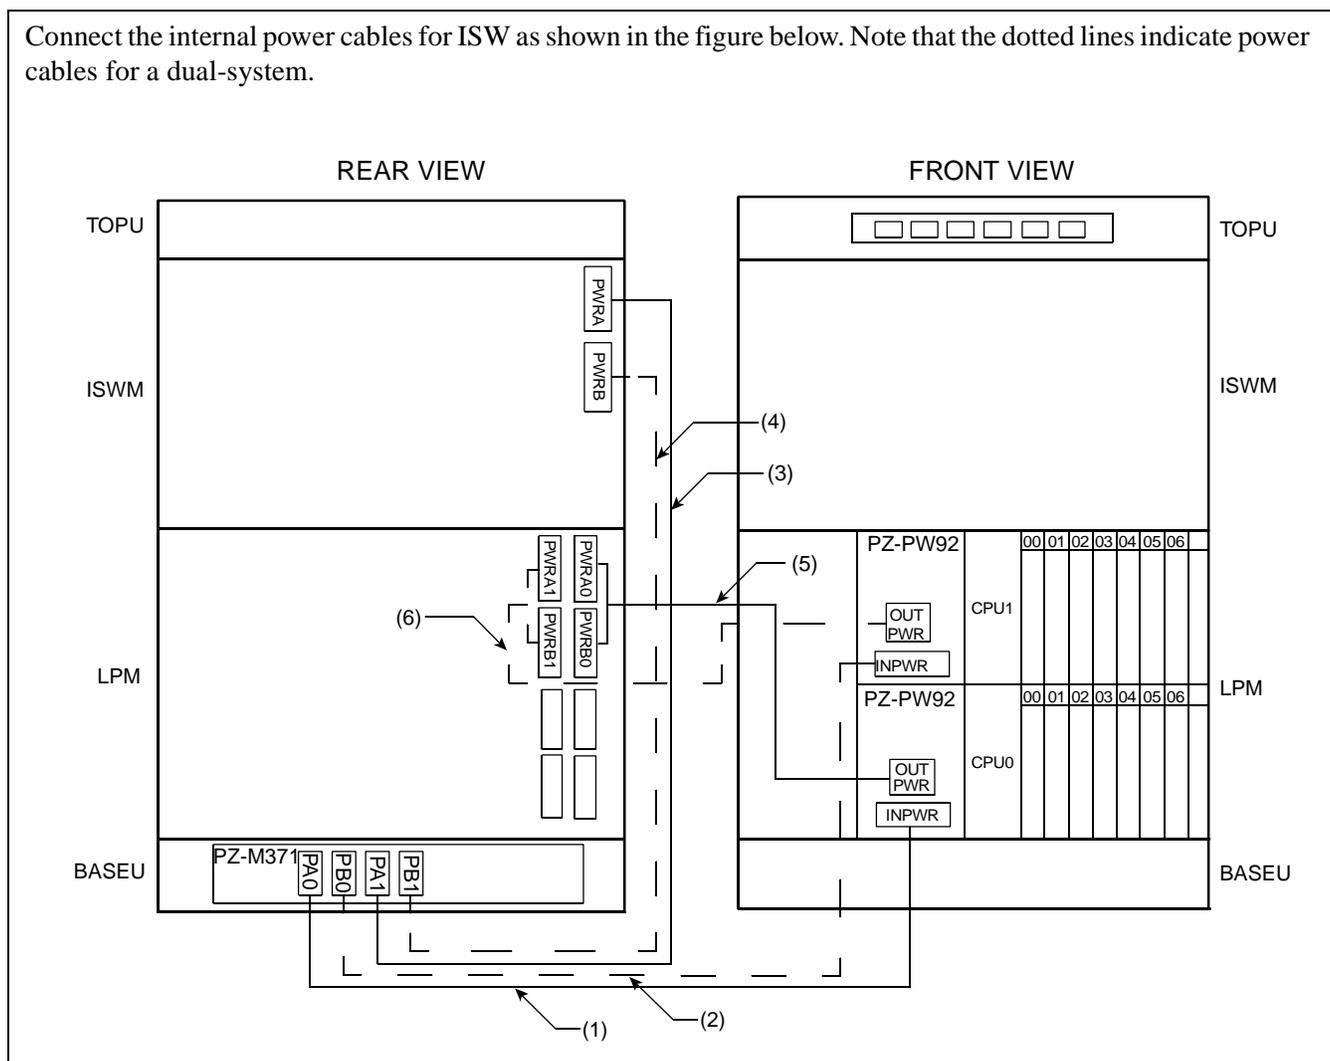

Figure 010-9 Internal Power Cable Connection for ISW
- Connection of Internal Power Cables for ISW _____ Referring to Figure 010-9, connect internal power cables for ISW.